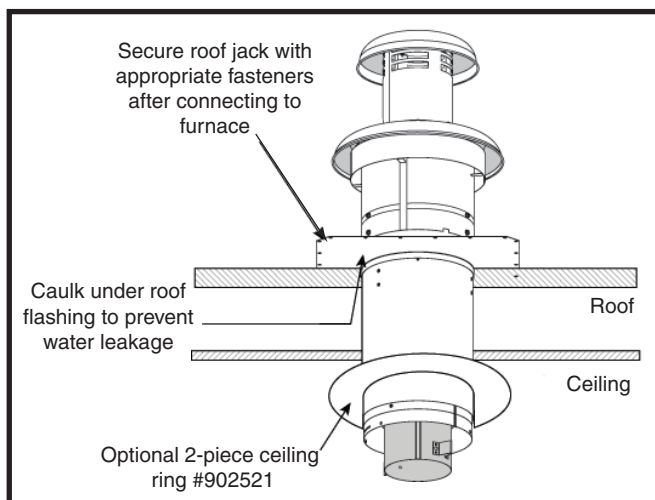
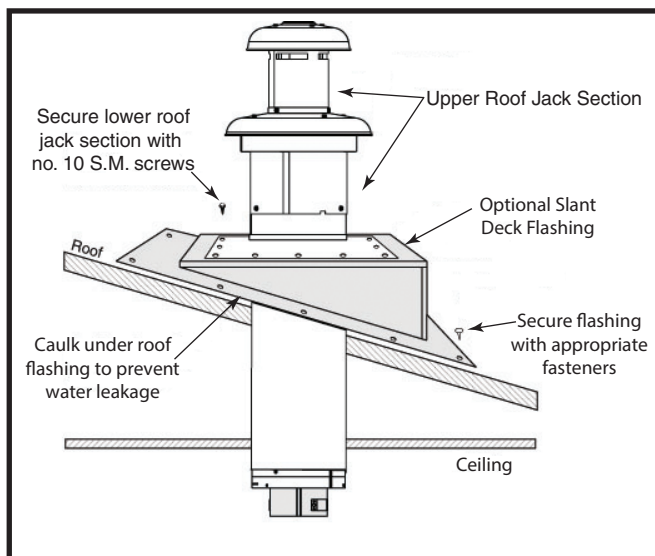

Figure 21. Flat Roof
Figure 22. Pitched Roof
1. Apply caulking compound on underside of roof flashing to form a continuous strip at least 3/8" wide around the underside of the perimeter of the flashing. For flat roof, see Figure 21 or see Figure 22 (page 12) if roof is pitched.